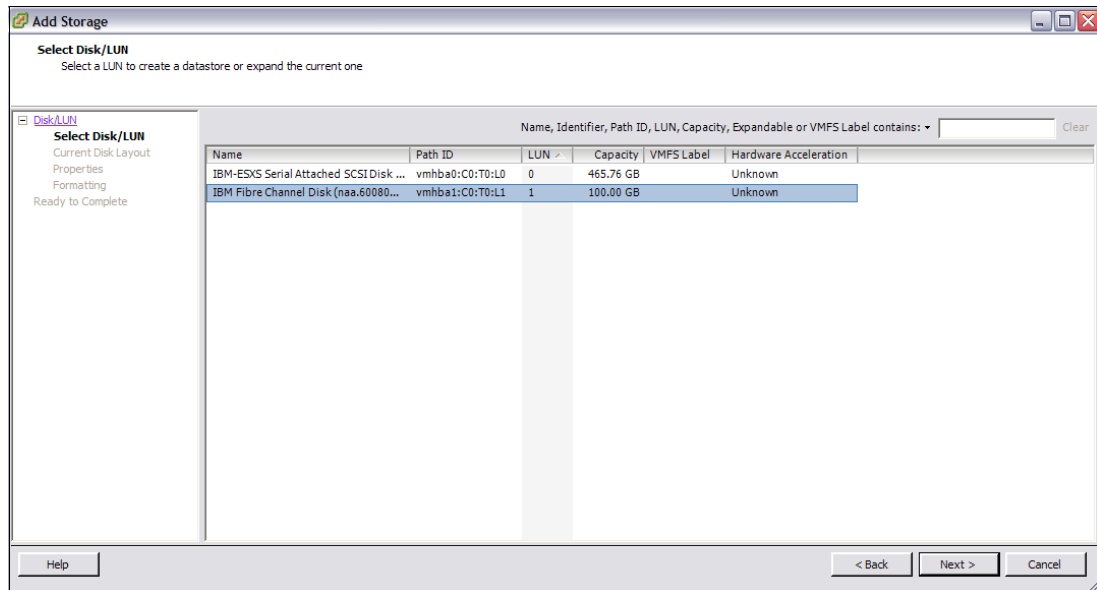

Figure 22-58 Select LUN
- As shown in Figure 22-58, select the SAN Fibre Channel LUN on which you want to create the Datastore VMFS partition. Click **Next**.